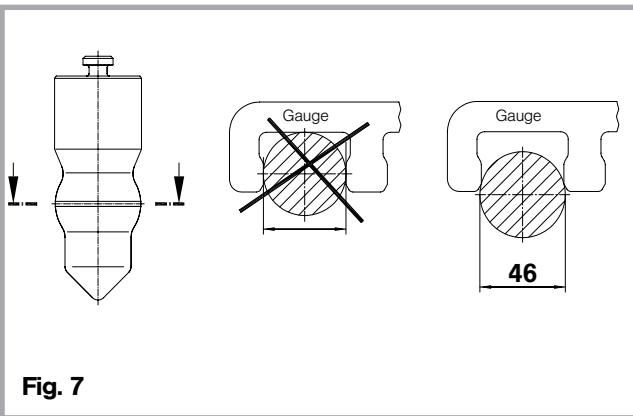

Fig. 7
- Check wear using ROCKINGER reference gauge (order no. 57122) (see Fig. 7):